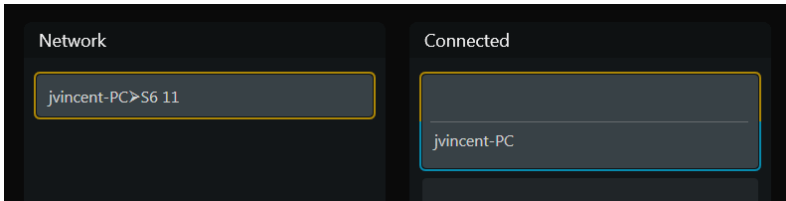

Figure 23. Workstation connected
**Connected** A connected workstation is indicated by a gray rectangle (see Figure 23).